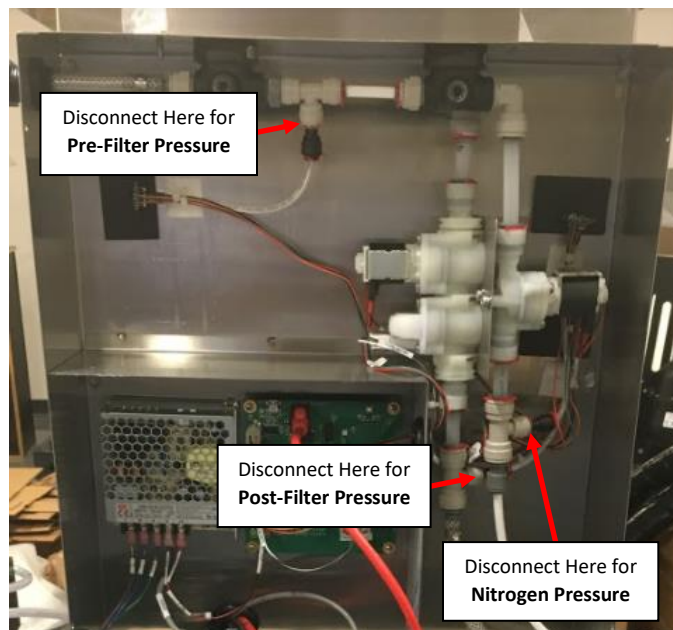

Figure 18: Pressure Transducer connection points shown.
8. See Figure 18 for location of each reading to identify the malfunctioning/damaged Pressure Transducer if a reading varies by more than 2psi from the nominal. Replace malfunctioning Pressure Transducer if needed.
See Figure 18.